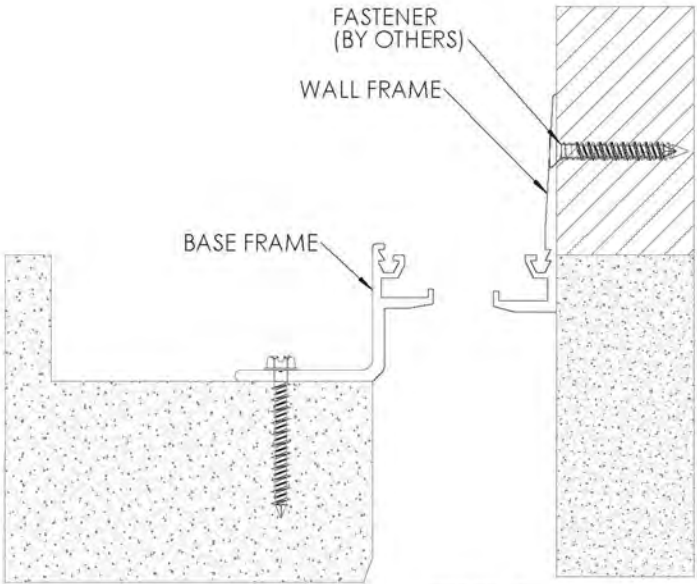

FIGURE 3
- 3. Position the wall frame into position, making sure the top channel is level with the top channel of the base frame. Attach the wall frame to the wall with appropriate fasteners (by others) for the wall type 18” o.c. See Figure 3